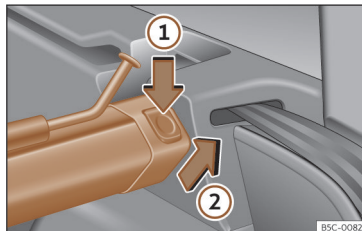

Fig. 190 In the boot: removing the partition net.
- Press the left or right release catch >>> **Fig. 190** in the direction of the arrow ①.
- Remove the casing from the support in the direction of the arrow >>> **Fig. 190** ②.
- Press the casing into the left and right supports in the opposite direction to the arrow >>> **Fig. 190** ② until it engages. The red markings on the release buttons should no longer be visible.